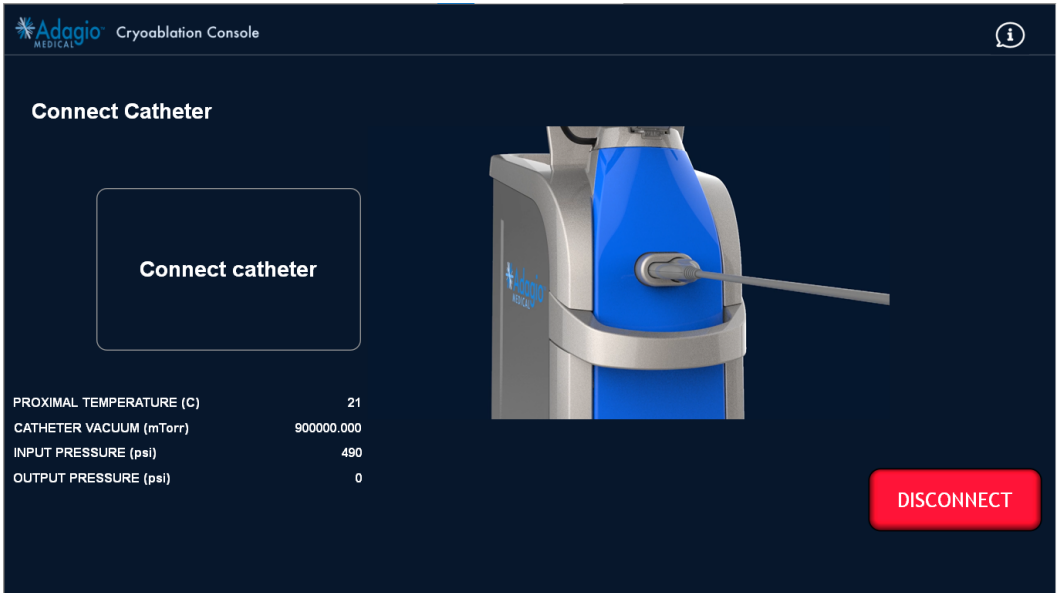

Figure 84 – Catheter Connection Prompt Screen Image
6. Connect Catheter as displayed on the Screen (Figure 84). If the Catheter fails to connect, click on the “DISCONNECT” button.